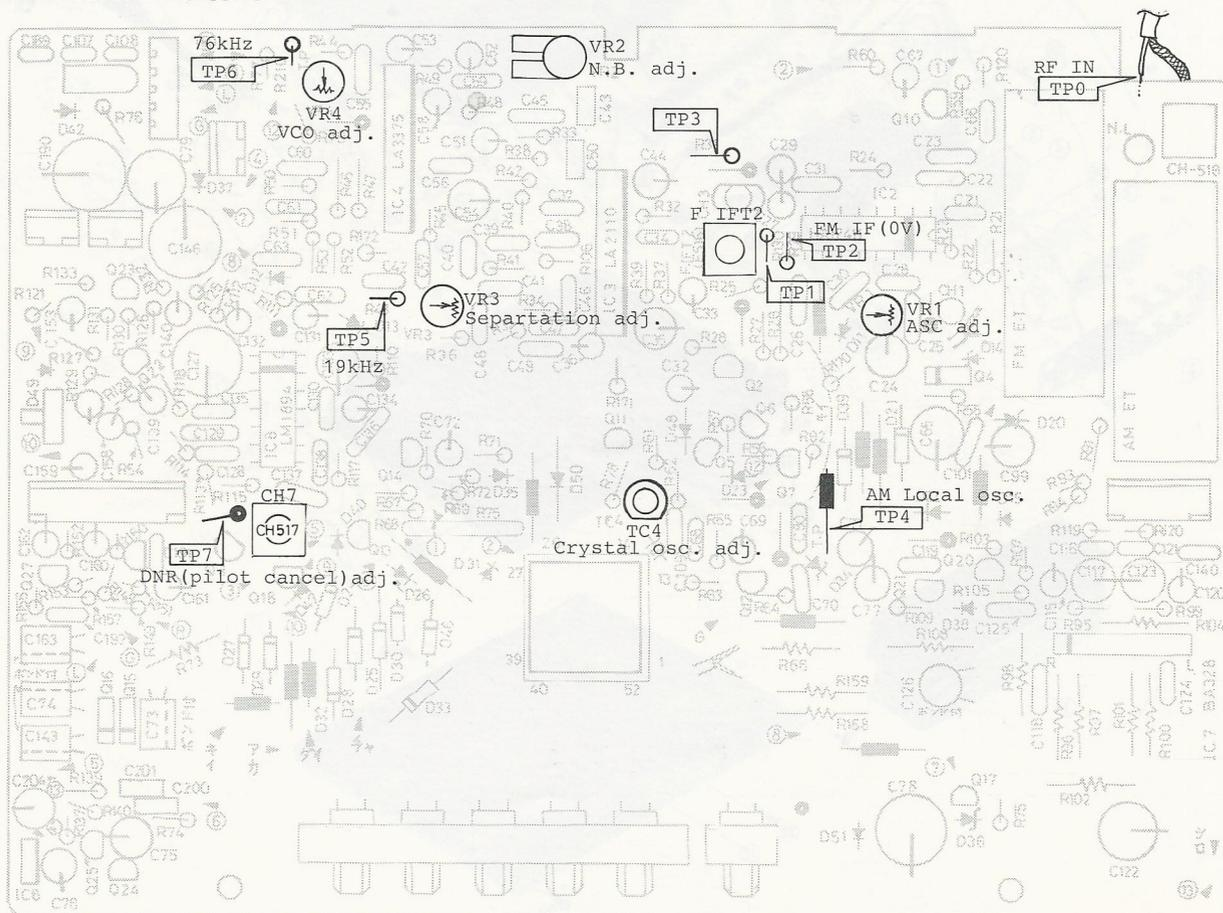

Fig. 12 (C33190231)
(2) Alignment (Refer to Fig. 12)
- (1) Connections
- (1) Connections a. Frequency counter.....Connect the TP 6
- (2) Alignment (Refer to Fig. 12)